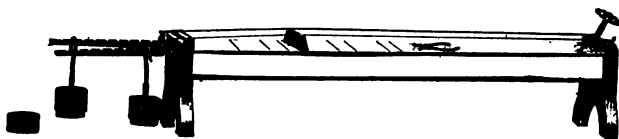

FIG. 134.—SONOMETER
172. **Vibrating Strings.** A string tightly stretched between two supports (Fig. 134) may be set in vibration in three ways: (1) by drawing a bow across it, as in the case of the violin; (2) by striking it with a hammer, as in the piano; or (3) by